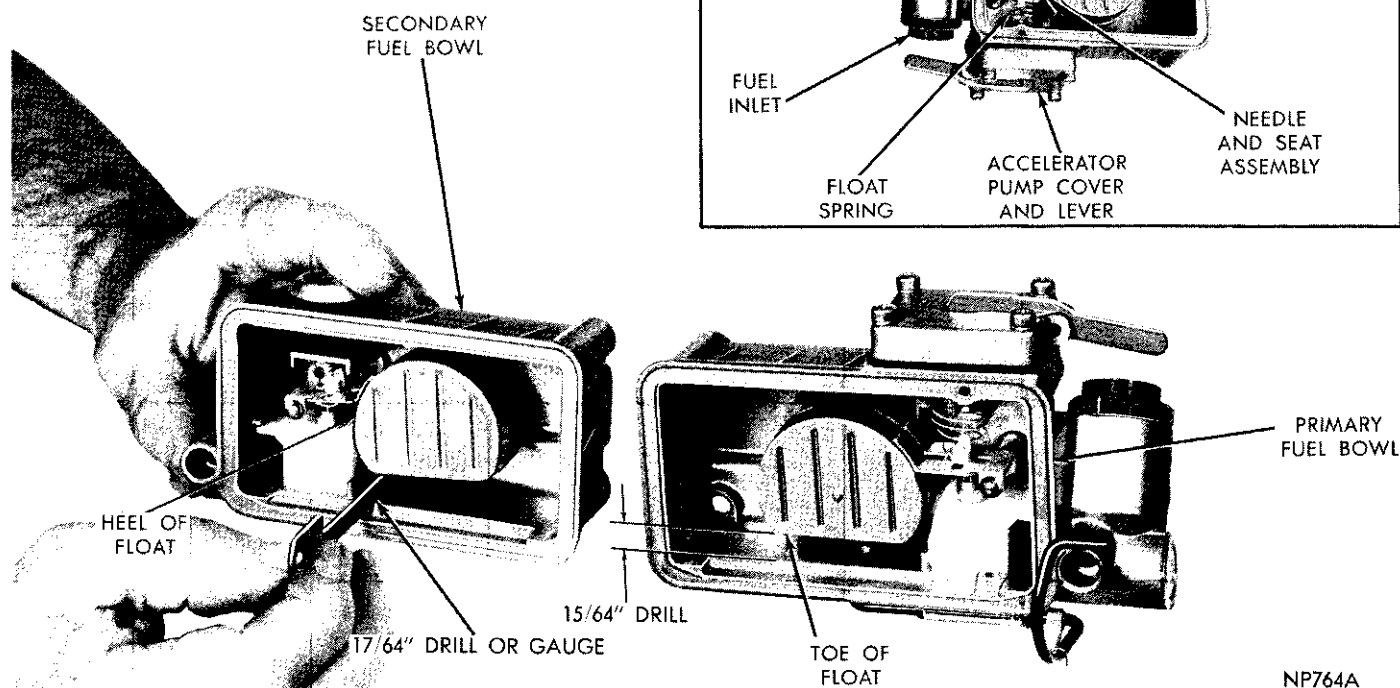

Fig. 12—Checking Float Setting (Primary and Secondary)
(1) Invert the primary fuel bowl and using a 15/64 inch drill shank or gauge, measure the clearance between toe of float and surface of fuel bowl. (Fig. 12).
(2) Invert the secondary fuel bowl and using a 17/64 inch drill shank or gauge, measure the clearance between heel of float and surface of fuel bowl (Fig. 12). If an adjustment is necessary, bend float tang until correct clearance has been obtained.